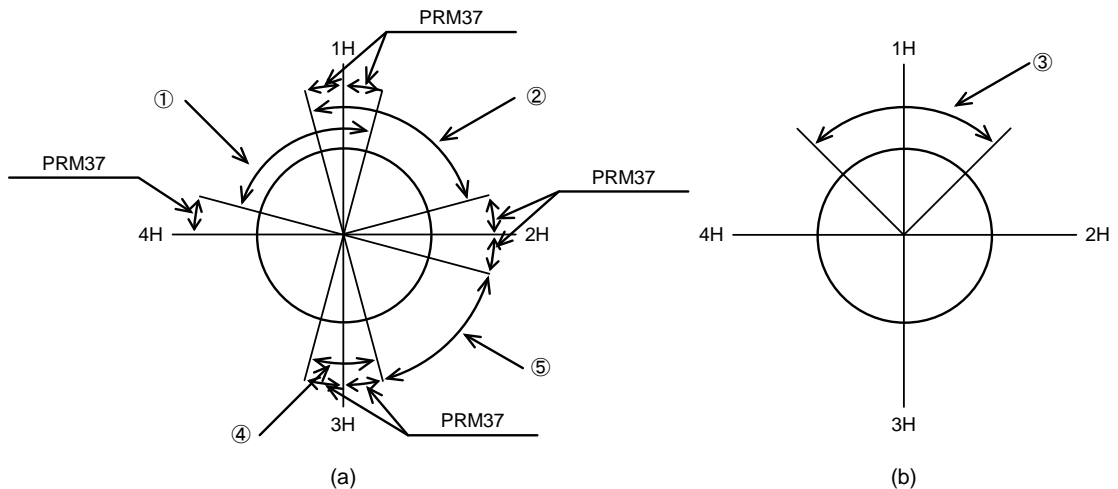

Fig. 7.8 Equal Segment Designation (G101) & Parameter
When within ① range for (a), Fig. 7.8 (a), executing G101A4;G91A0F□□ will cause the actuator to move to 1H position.
When within ② range for (a), Fig. 7.8 (a), executing G101A4;G91A0F□□ will cause the actuator to move to 1H position.
When within ③ range for (b), Fig. 7.8 (b), executing G101A4;G91A0F□□ will cause the actuator to move to 1H position (nearest position). PRM 37 will not influence motions.
If G101A4;G91A0F□□ is executed in the range specified ④ in Fig. 7.8 (a), a travel to position 3H occurs.
When within ① range for Fig. 7.8 (a), executing G101A4;G91A-1F□□ will cause the actuator to move to 4H position.
When within ③ range for Fig. 7.8 (b), executing G101A4;G91A1F□□ will cause the actuator to move to 2H position and G101A4;G91A-1F□□ will cause the actuator to move to 4H position.
If G101A4;G91A-1F□□ is executed in the range specified ④ in Fig. 7.8 (a), a travel to position 2H occurs.
Within the range ④ in the Fig. 7.8 (a), executing G101A4;M70; will cause CN3 M code to output the current segment position (segment position 3 .. bit 0 and 1 in the Figure).
Within the range ③ in the Fig. 7.8 (b), segment position 1 (bit 0) is output.
If G101A4;M70; is executed in the range specified ④ in Fig. 7.8 (a), the current segment position (segment position 3 in the figure ... bit 0 and bit 1) is issued from the M code output pins of CN3.